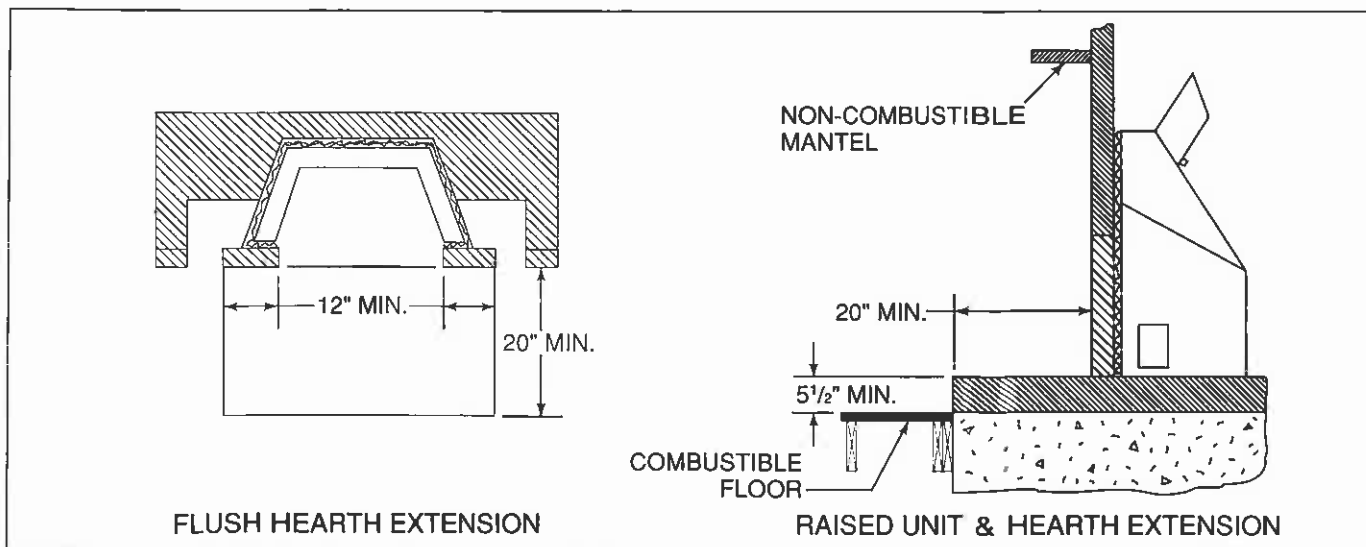

Figure 3
Minimum hearth extension dimensions for the units are illustrated in Figure 3. The hearth extension should be built over the fireplace foundation and be composed of non-combustible materials. The hearth extension must extend 12" minimum beyond each side of the fireplace opening and must have an overall depth of 20" minimum.
**MINIMUM HEARTH EXTENSION DIMENSIONS ARE SHOWN IN FIGURE 3. THE HEARTH EXTENSION MUST EXTEND A MINIMUM OF 12 INCHES BEYOND THE FIREPLACE OPENING AND BE AT LEAST 20 INCHES BEYOND THE FIREPLACE HEARTH. ALL CONSTRUCTION BENEATH THE FIREPLACE, FIREPLACE HEARTH, AND THE HEARTH EXTENSION MUST BE OF NON-COMBUSTIBLE MATERIAL.**